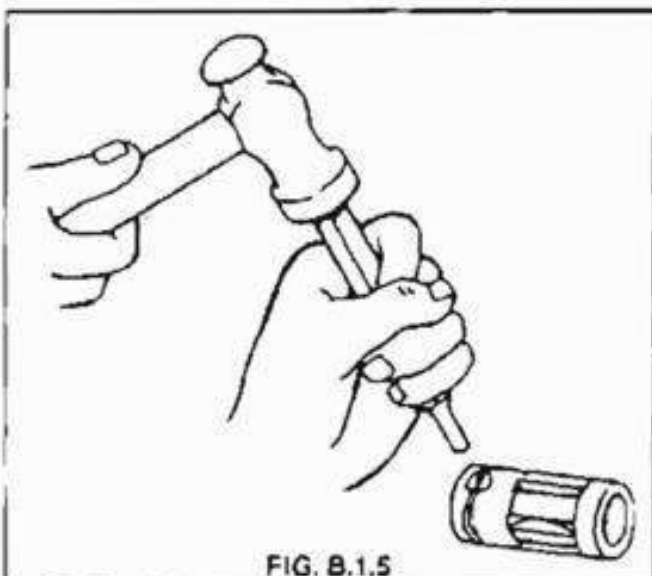

FIG. B.1.5
2. When refitting retaining spring to flash hider, centre-punch the side of the spring recess walls where the spring ends lie, in order to retain the spring in position and to ensure that the spring ends do not stand proud of the flash hider surface. After centre punching retaining spring, surfaces that are filed must be blackened. (Use 3mm pin punch). Fig. B.1.5.